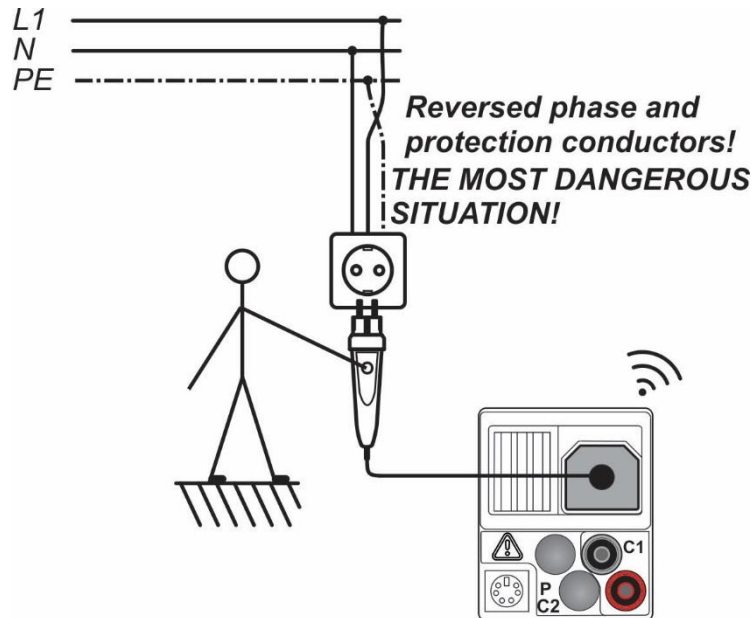

Figure D.4: Reversed L and PE conductors (application of plug commander)
- ❑ **Connect** commander to the item to be tested (see *Figure D.4*).